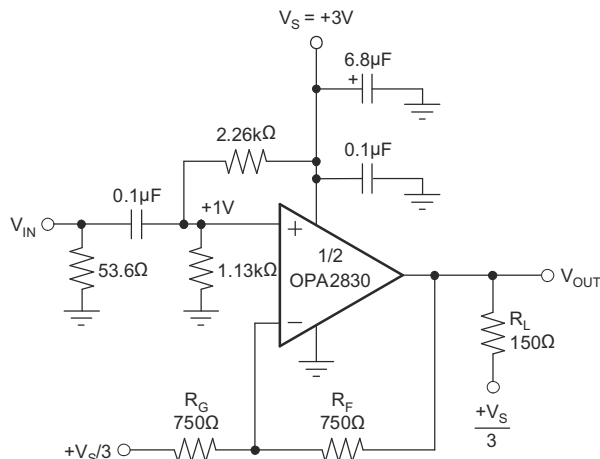
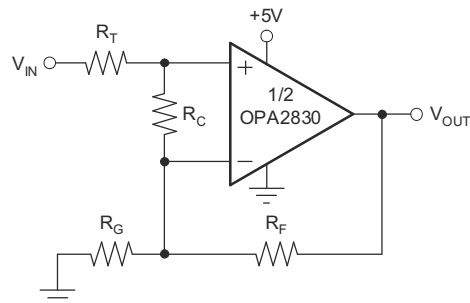

Figure 8-2. AC-Coupled, G = +2, 3V Single-Supply Specification and Test Circuit
Figure 8-8. Compensated Noninverting Amplifier
at $T_A = 25^\circ\text{C}$, $G = +2V/V$, and $R_L = 150\Omega$ to $V_S/3$ (unless otherwise noted); see also Figure 8-2
Figure 8-2 shows the ac-coupled, gain of +2 configuration used for the 3V *Specifications* and *Typical Characteristics*. Voltage swings reported in the *Electrical Characteristics* are taken directly at the input and output pins. For the circuit of Figure 8-2, the total effective load on the output at high frequencies is 150Ω || 1500Ω. The 1.13kΩ and 2.26kΩ resistors at the noninverting input provide the common-mode bias voltage. The parallel combination equals the dc resistance at the inverting input (R_F), reducing the dc output offset due to input bias current.
Figure 8-8 shows a noninverting amplifier that reduces peaking at low gains. The resistor R_C compensates the OPA2830 to have higher Noise Gain (NG), which reduces the ac response peaking (typically 4dB at $G = +1$ without R_C) without changing the dc gain. V_{IN} needs to be a low impedance source, such as an op amp.
Frequency response in a gain of +2 can be modified to achieve exceptional flatness simply by increasing the noise gain to 3. One method, without affecting the +2 signal gain, is to add a 2.55kΩ resistor across the two inputs (see Figure 8-8). A similar technique can be used to reduce peaking in unity-gain (voltage follower) applications. For example, by using a 750Ω feedback resistor along with a 750Ω resistor across the two op amp inputs, the voltage follower response is similar to the gain of +2 response of Figure 8-2. Further reducing the value of the resistor across the op amp inputs, further dampen the frequency response due to increased noise gain. The OPA2830 exhibits minimal bandwidth reduction going to single-supply (5V) operation as compared with ±5V. This minimal reduction is because the internal bias control circuitry retains nearly constant quiescent current as the total supply voltage between the supply pins is changed.
The criterion for setting this R_S resistor is a maximum bandwidth, flat frequency response at the load. For a gain of +2, the frequency response at the output pin is already slightly peaked without the capacitive load, requiring relatively high values of R_S to flatten the response at the load. Increasing the noise gain also reduces the peaking (see Figure 8-8).